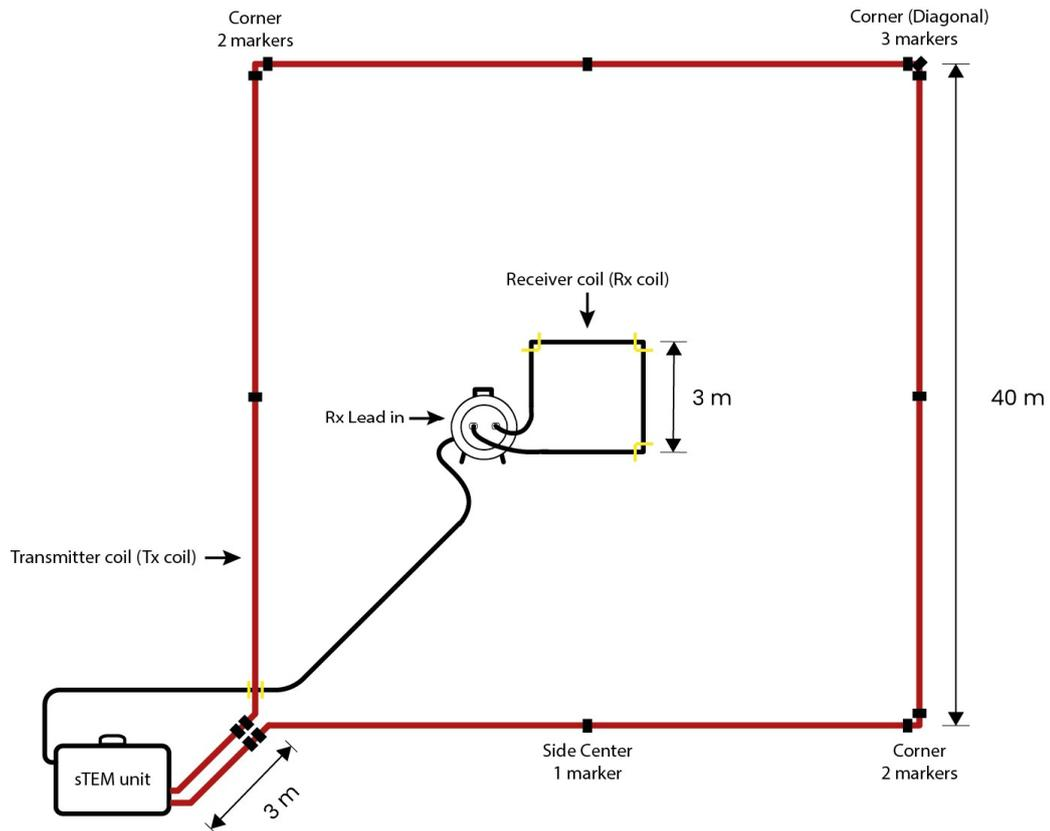
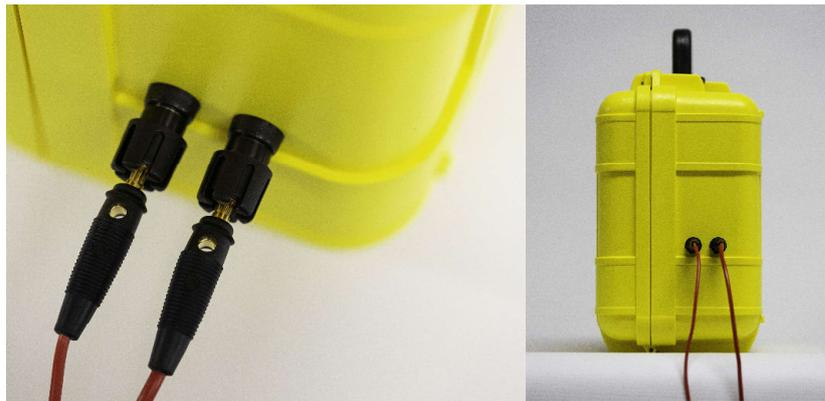

Figure 6. Example sTEM system layout with a 40x40 m Tx coil and 3x3 m Rx coil. The 20x20 m Tx coil only has corner markers
Figure 8. sTEM banana plugs. Connect Tx coil in any order.
Figure 6 show a sTEM layout with a 40x40 m Tx coil and a 3x3 m Rx coil. Different coil sizes follow the same layout plan, with some adjustment in the case of 80x80 m Tx coil. The Tx- and Rx-cables have corner markers, additionally the Tx-cables have center markers.
- Move the sTEM unit the ~3 m outside the Tx coil (see Figure 6) and connect the Tx coil via the banana plugs to the sTEM unit (Figure 8). The connection order of the two banana plugs is irrelevant.